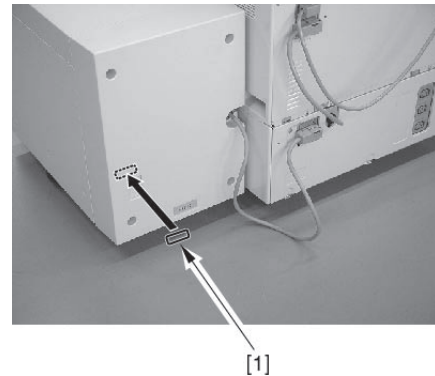

Fig. 2-17
18) Attach the power supply label [1] to the rear cover of the paper deck as indicated in Fig. 2-17.